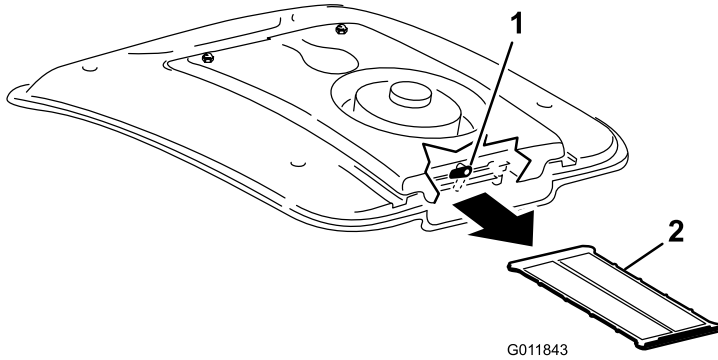

Figure 74
2. On the rear of the fan mount, rotate the latch to the side (Figure 74).
3. Slide the A/C screen out from under the air conditioning coil (Figure 74).
4. Clean the screen thoroughly with compressed air (Figure 74).